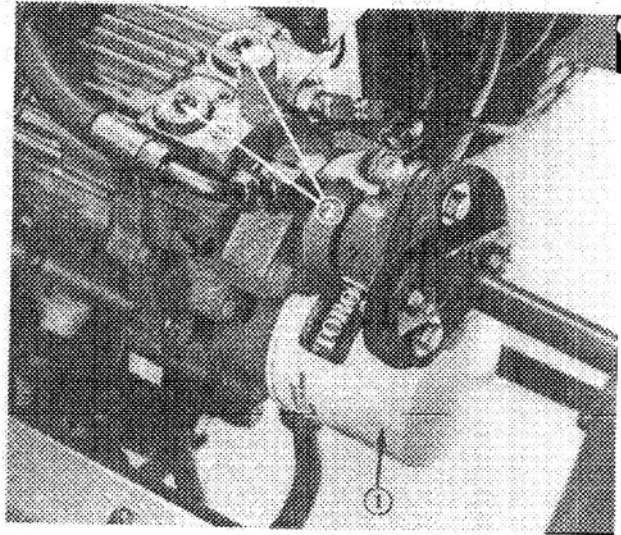

Figure 70
3. Clean the area around the hydraulic oil filter and remove the filter (Fig. 70).
Apply a liberal amount of No. 2 General Purpose Lithium Base Grease to the two by-pass valve pins located on top of the transmission to prevent corrosion build-up which could lock the pins into the by-pass position and cause internal transmission failure (Fig. 70).